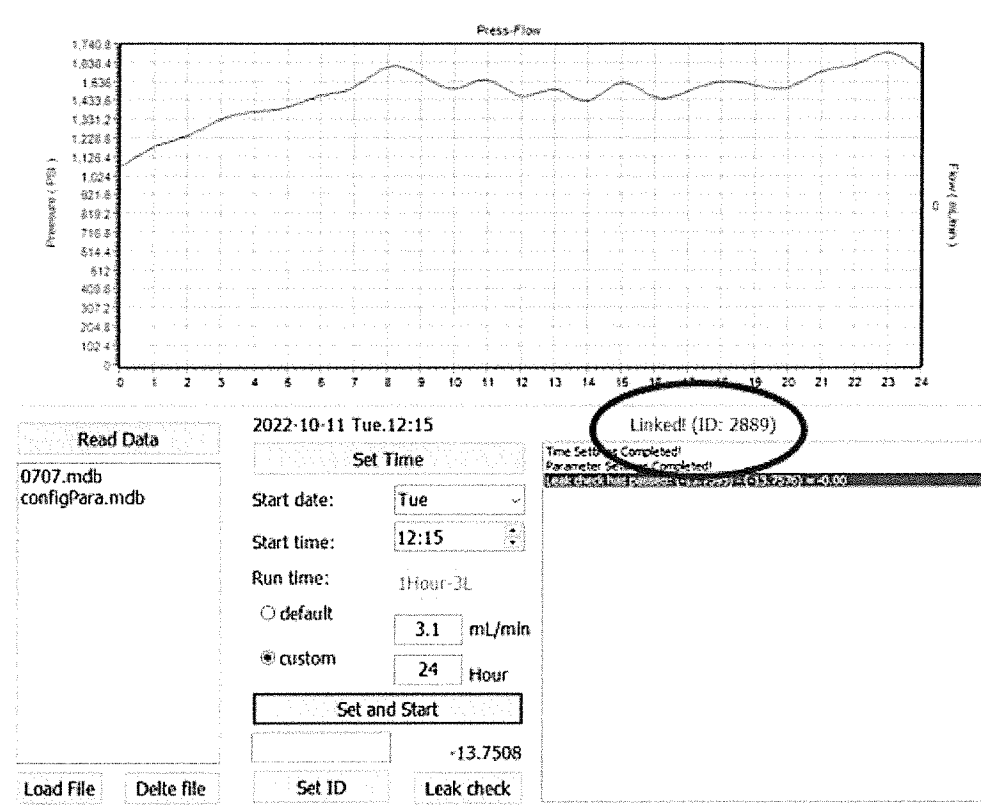

Figure 10: Linked home screen on the software application of the Nutech 2703 controller.
- Once the connection starts between the Nutech 2703 controller and your laptop, double-click on Nutech 2703 application installed on the laptop. After the software application is opened, if the Wi-Fi connection has linked successfully then "Unlinked" (to the right of the date and time) on your computer application will change to "Linked" (Figure 10). Note: Once you start to make the Wi-Fi connection you can open the application.